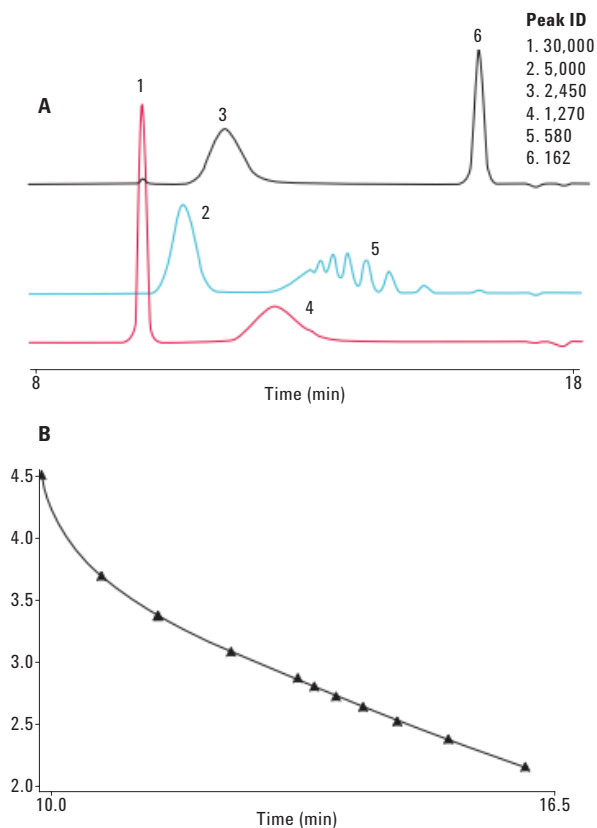

Figure 4. Calibration of a small pore size column.
**Flowrate marker:** To mark the end of the run, a small molecule such as toluene, BHT, acetone, or ethylene glycol, is added to all samples as a flowrate marker. The narrow peak from the marker (Figure 4, peak 6) can be used to measure column efficiency and identify degradation, tailing, and retention shifts that are not obvious with broad sample peaks.